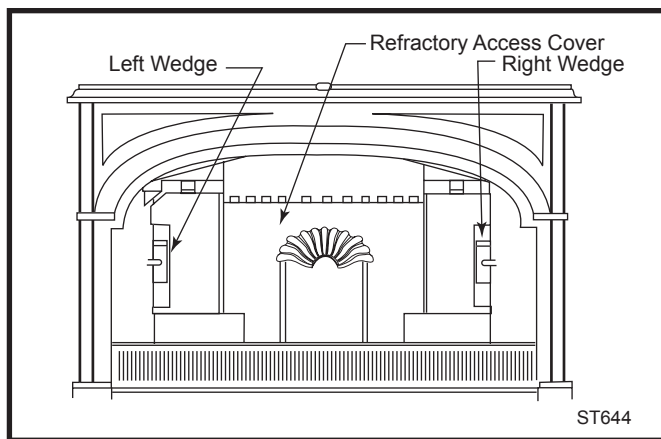

Fig. 35 Release the lower fireback by tapping out two wedges.
3. Release the fireback by prying the left and right wedges upward. (Fig. 35)